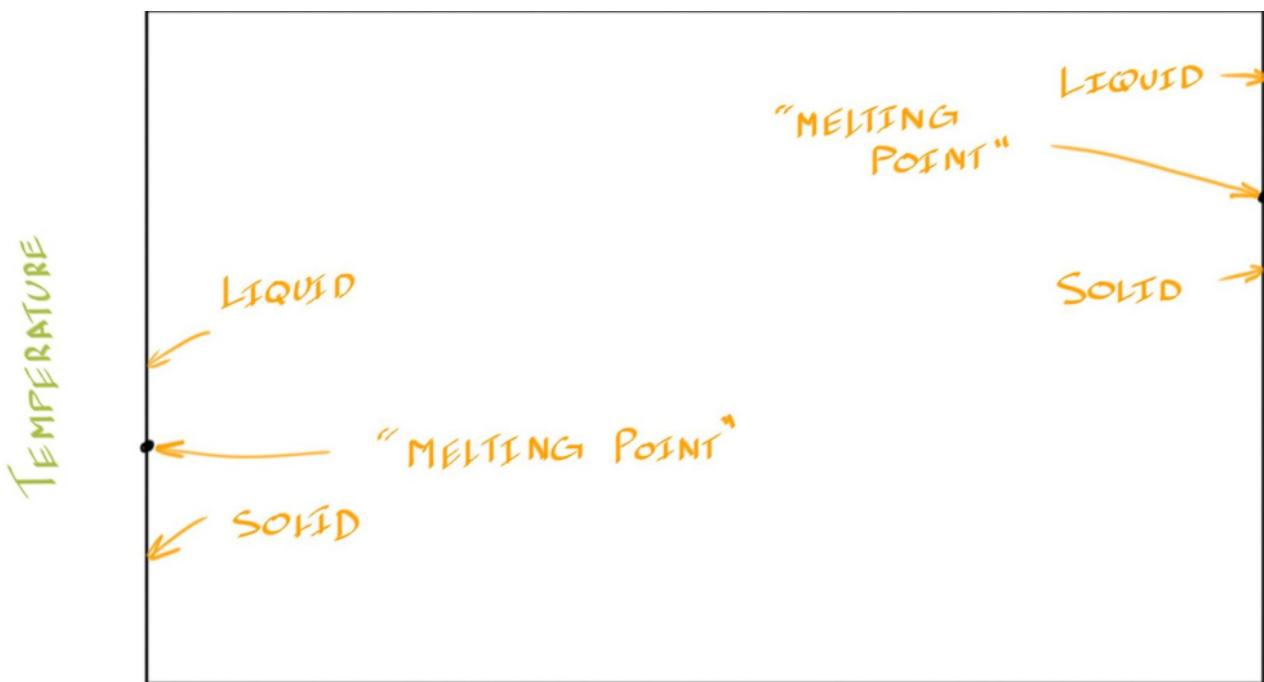

Figure 4: A schematic binary isomorphous phase diagram for the hypothetical two-component A-B system, showing only the melting points of the pure components.
In Figure 4, you can see that I've identified the melting points of components A and B. But what happens at compositions other than pure A or pure B? Where does melting occur for a 50:50 mix of A and B? It turns out that there is actually a range of temperatures over which the process of melting (or solidification if you're decreasing the temperature) normally occurs, and if we're considering an *isomorphous*^① system, it will look something like this.